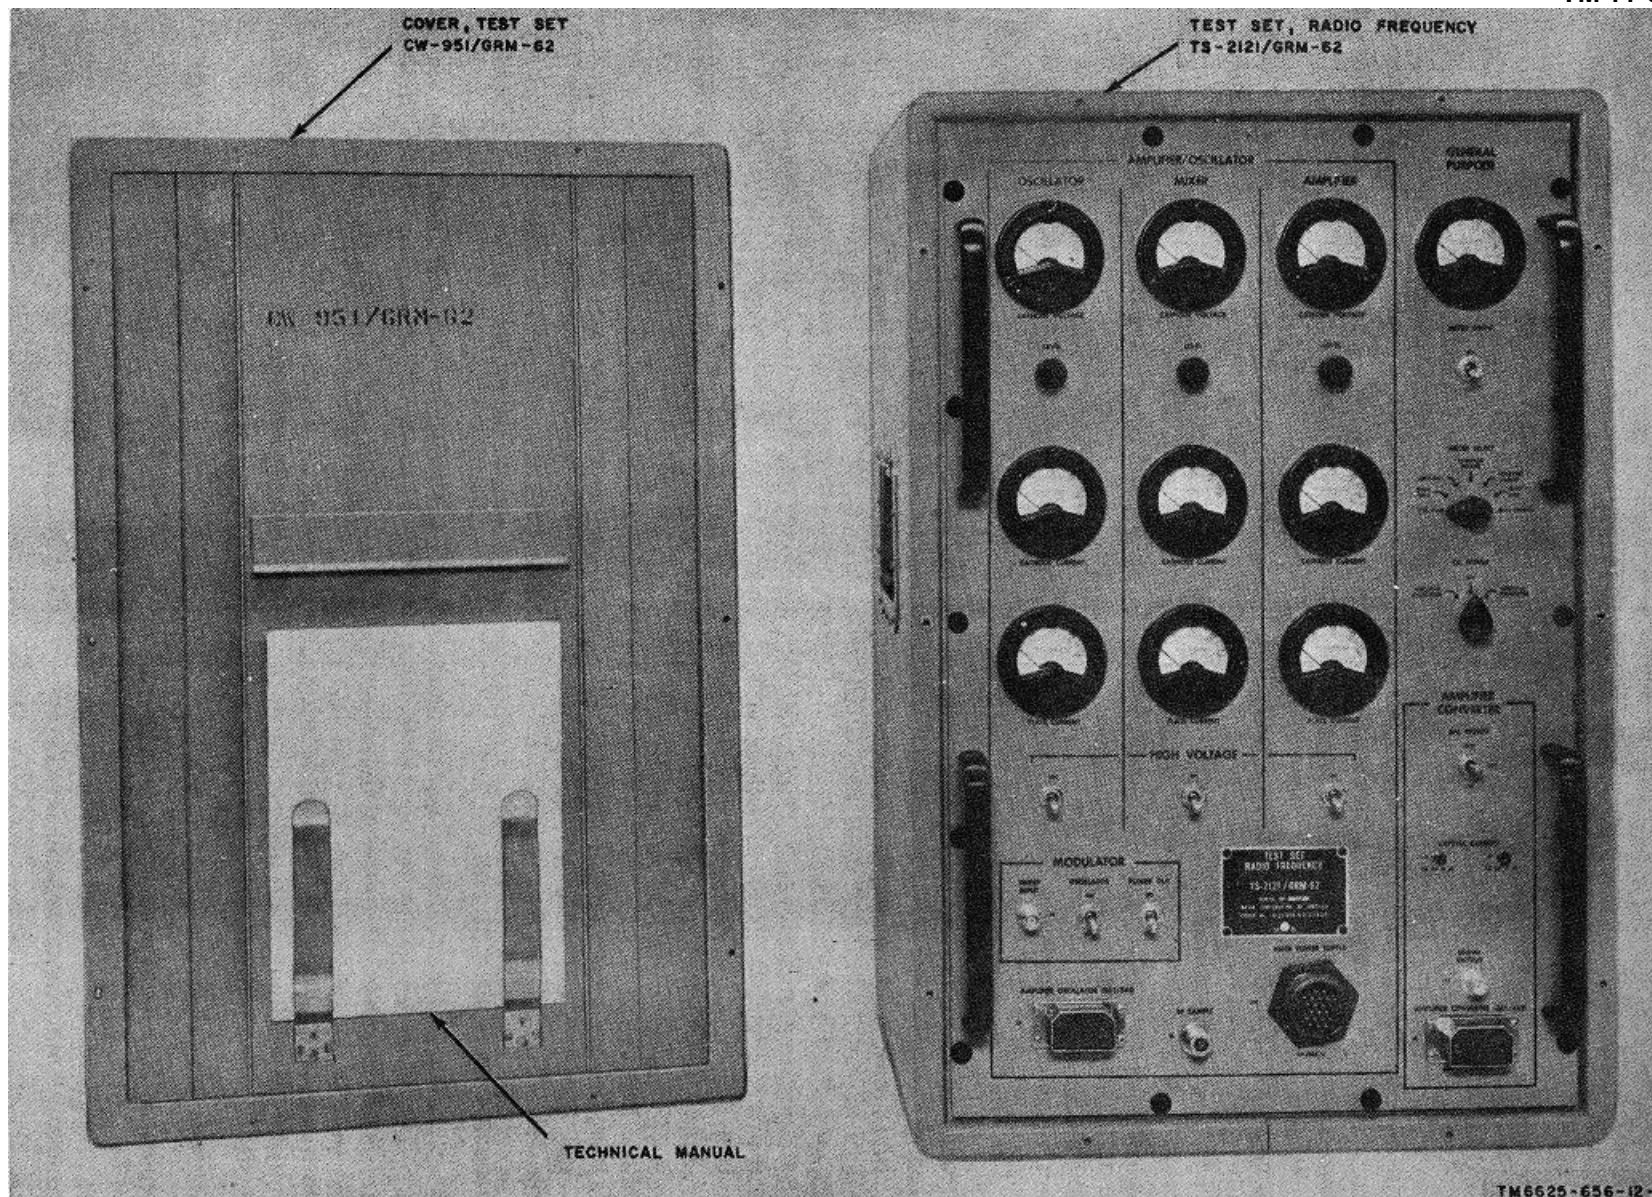

Figure 1-1. Test Set, Radio Frequency, AN/GRM-62, less Cable Assembly, Radio Frequency CG-3434/U (4 ft 2 in), and running spares.
a. This manual describes Test Set, Radio Frequency AN/GRM-62 (fig. 1-1) and covers the installation, limited operation, and operator and organizational maintenance. It includes instructions for operation under normal conditions, cleaning and inspection of the equipment, and replacement of parts available to the operator and organizational repairman.
b. Operation of Test Set, Radio Frequency AN/GRM-62 in conjunction with other test equipment (para 1-10) to test components of the AN/GRC-50(*) (V) (para 1-5a) is covered in the maintenance manual for the AN/GRC-50A(*) (V) (TM 11-5820-461-35).
(1) Radio Sets AN/GRC-50(*) (V) represents Radio Sets AN/GRC-50(V) 1, 2, 3, 4, and 5, and AN/GRC-50A (V) 1, 2, 3, 4, 5, 6, and 7.
(2) Amplifier-Oscillator AN/1958(*)/GRC represents AM-1958/GRC and AM-1958A/GRC (assemblies 2A2).
(3) Amplifier-Converter AN-1955(*)/GRC represents AM-1955/GRC and AM-1955A/GRC (assemblies 3A1).
(4) Amplifier-Converter AM-1956(*)/GRC represents AM-1956/GRC and AM-1956A/GRC (assemblies 3A2).